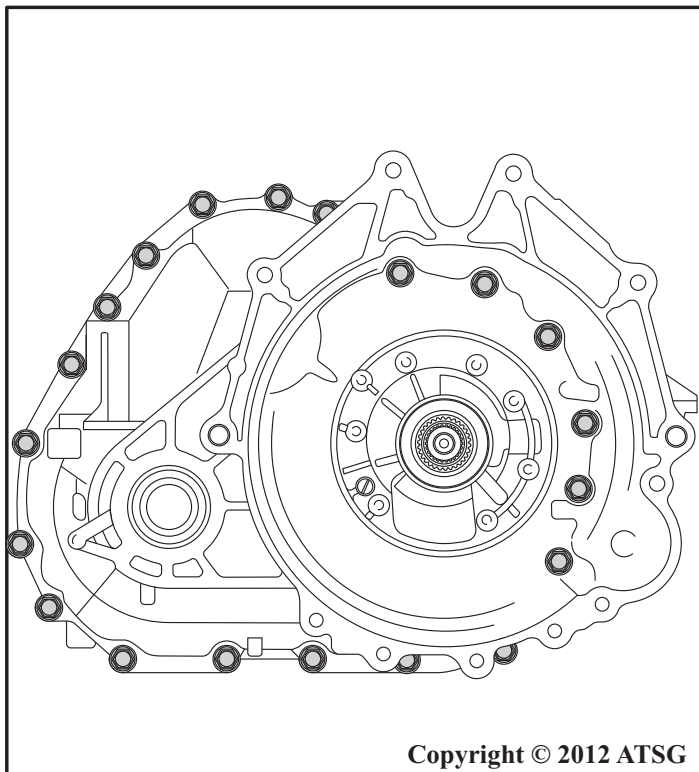

Figure 63
21. Remove the 20 torque converter housing bolts, as shown in Figure 63 and 64.
- Note: Six of these bolts are inside of the converter housing, as shown in Figure 63.*